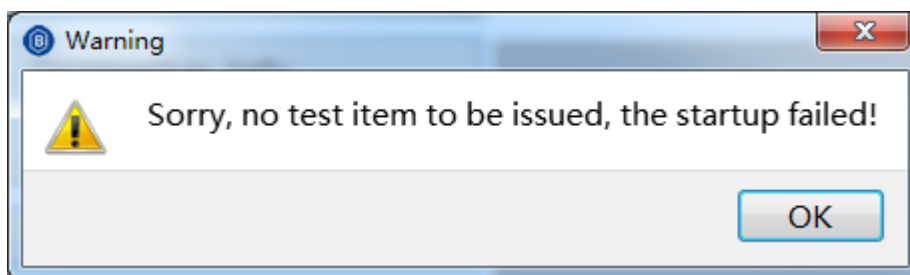

Figure. 8.9.2 Start-up failure
- If the serial number does not exist, the system will pop up warning of start-up failure, as shown in Figure 8.9.2: